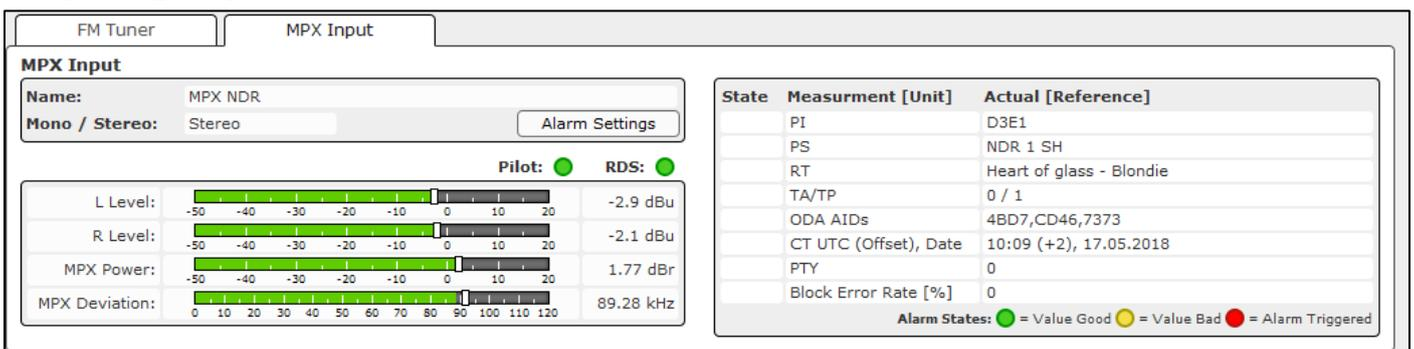

Fig. 40: Information – Overview, MPX Input status
- Under **Information**→**Overview** you can see the status of MPX Input in the MPX Input tab (see Fig. 40):